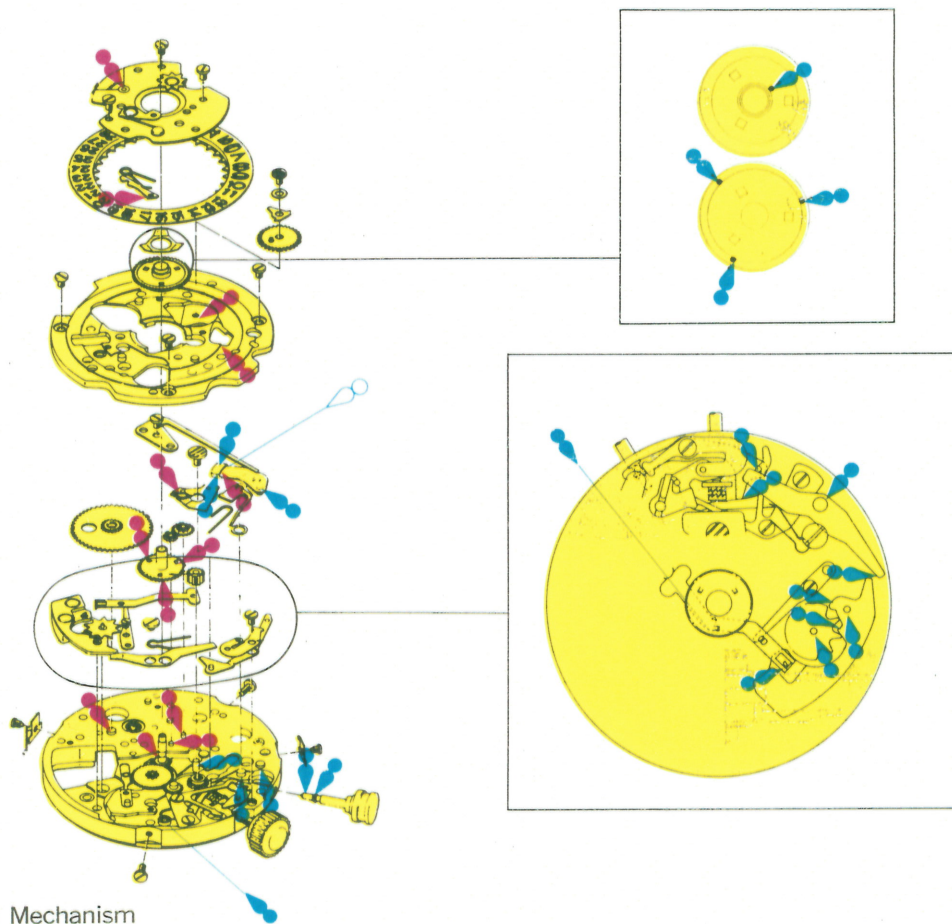

Fig. 4 Calendar and Bell Mechanism
- Calendar and bell mechanism .....Fig. 4